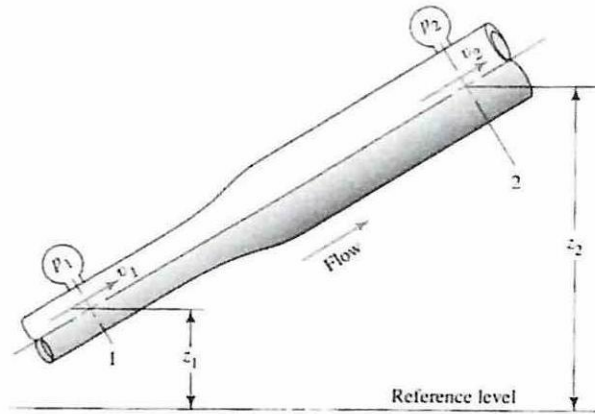

Figure Q3(b)
- (b) Refer to **Figure Q3(b)**, explain the continuity equation for fluid flow in pipe system. (6 marks)